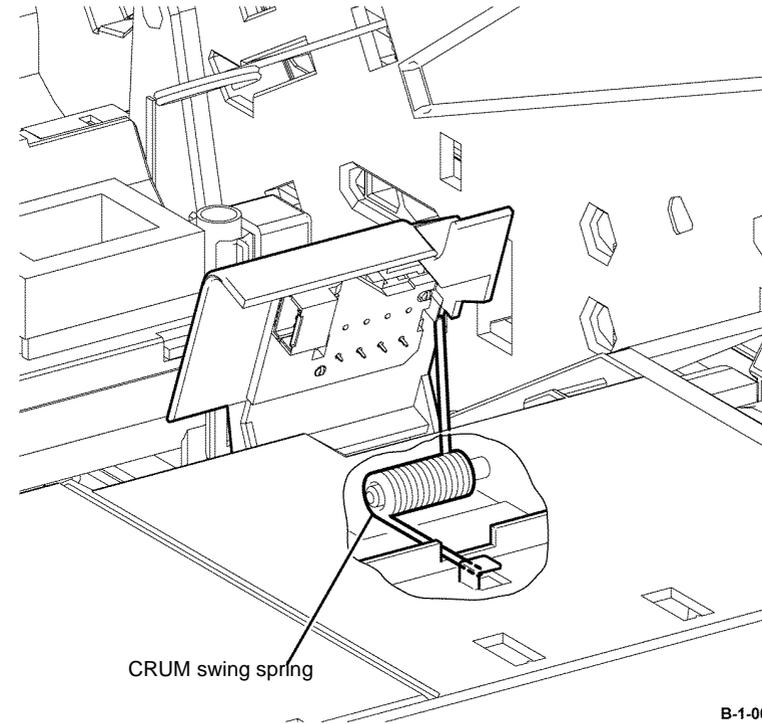

Figure 4 CRUM swing spring installation
2. When closing the CRUM housing assembly, ensure the CRUM swing spring is installed as shown, Figure 4.